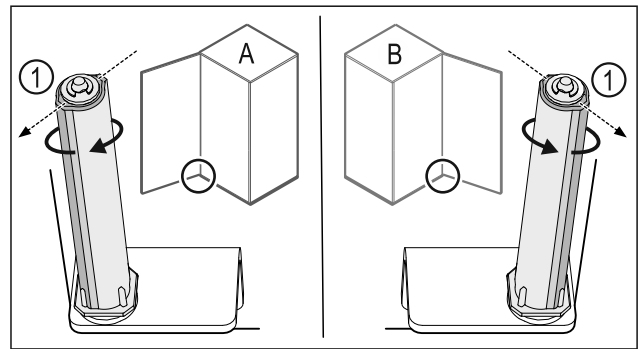

Fig. 46 Left stop (A) / right stop (B)
- Turn the locking system against the resistance until the bar on the locking system Fig. 46 (1) is pointing outwards.